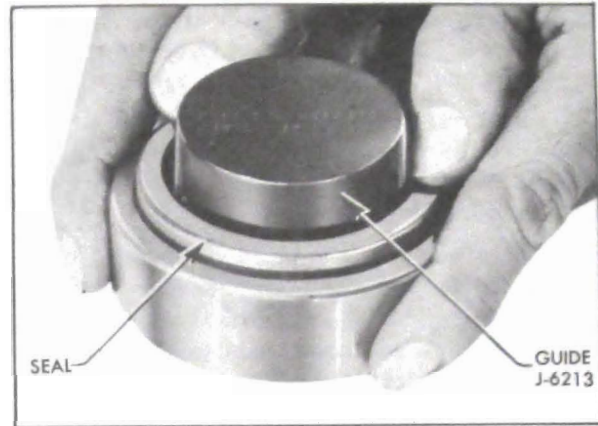

Figure 6-6—Installing Rear Wheel Bearing Oil Seal
3. If seal only is defective, pry old seal from bearing and install new seal using Guide J-6213. Push seal in carefully with fingers until lip is over bearing inner race; then remove installing guide and drive seal in flush with a flat wood block. See Figure 6-6.